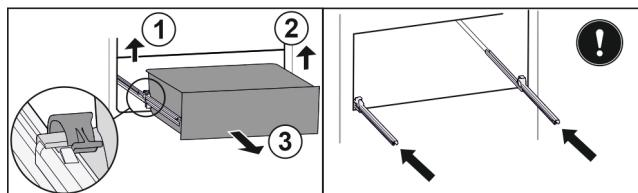

Fig. 111
- ▶ Lift left clamp and simultaneously pull drawer forwards on the left. Fig. 111 (1)
- ▶ Lift right clamp and simultaneously pull drawer forwards on the right. Fig. 111 (2)
- ▶ Remove drawer to the front. Fig. 111 (3)